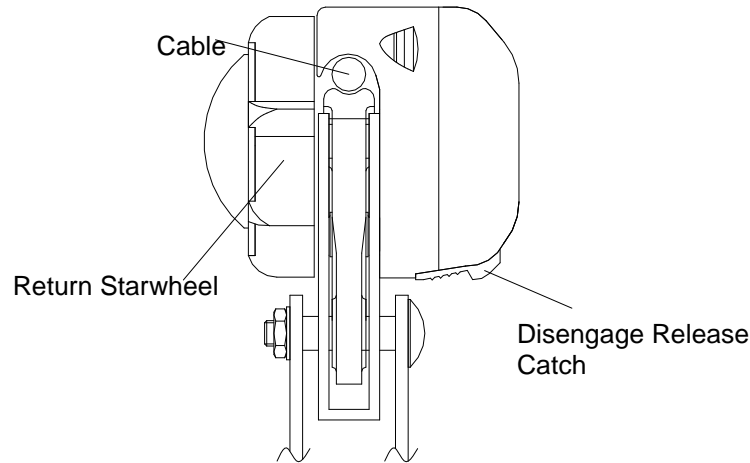

Fig 6.4.
- 6.4. Move the device around the cable until the cable is held within the cavity in the body of the device. Remove your thumb and allow the release catch to return. Finally allow the starwheel to move back into its original position, check that the release catch has disengaged and the starwheel cannot be pulled out. Fig 6.4.